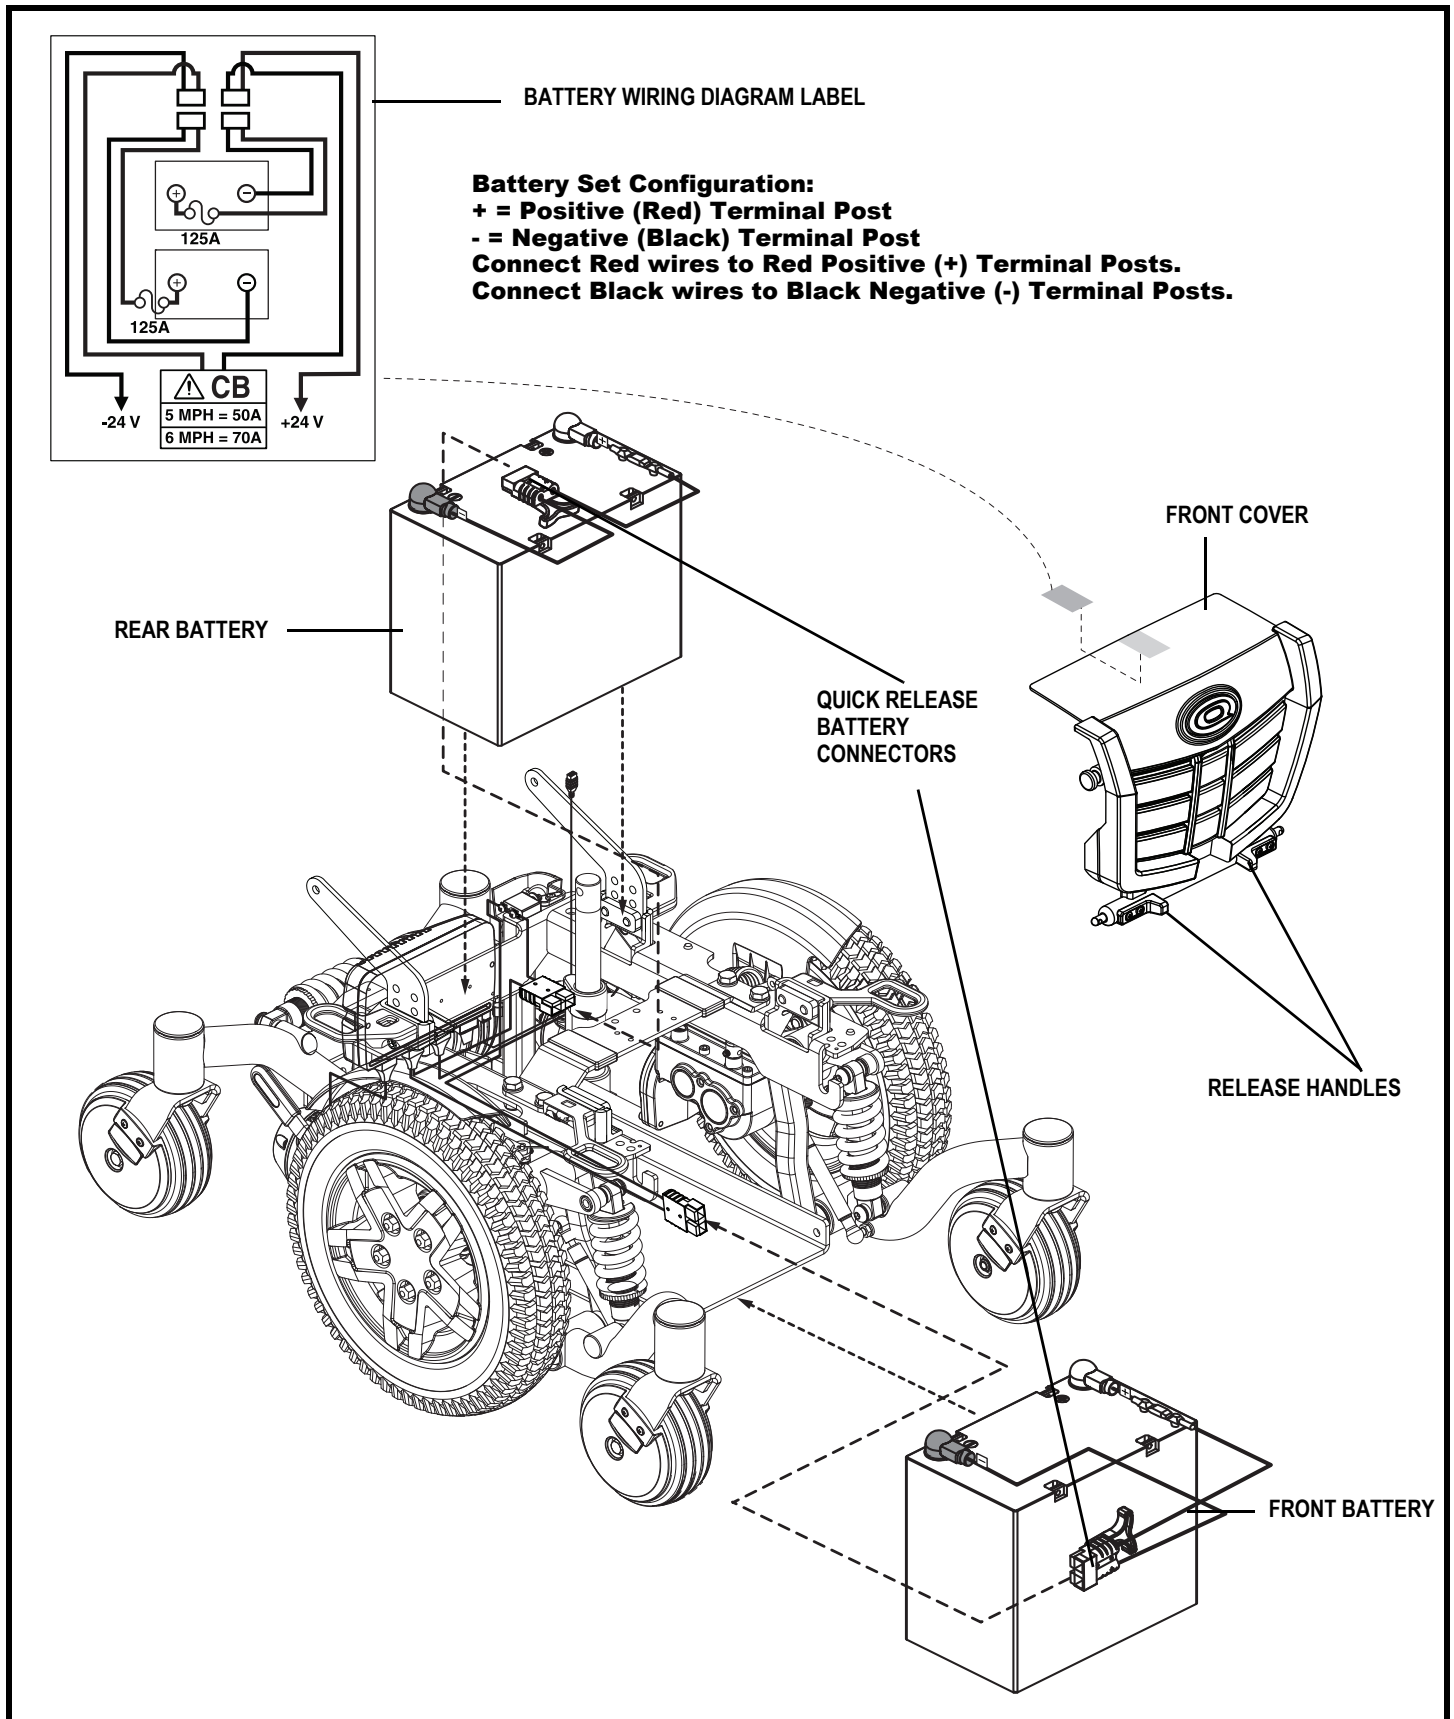

Figure 23. Battery Installation
5. Remove the front cover by squeezing the release handles (**see figure 23**) and lifting the front cover up and away from the power base.
12. Connect the battery harness to the new front battery according to the battery wiring diagram. **See figure 23.**
13. Connect the battery harness to the new rear battery according to the battery wiring diagram. **See figure 23.**